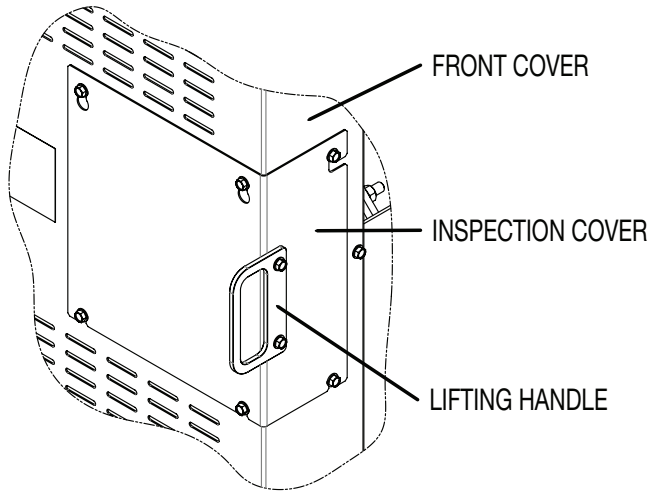

Figure 2 - Attach handle
- Attach two front cover lifting handles to the front cover on small guards. On larger belt guards equipped with an inspection cover, attach one handle to the inspection cover as shown in Figure 2. Insert and tighten the two mounting screws on each lifting handle. If equipped with an inspection cover, attach the inspection cover to the front cover and insert and tighten the six screws.